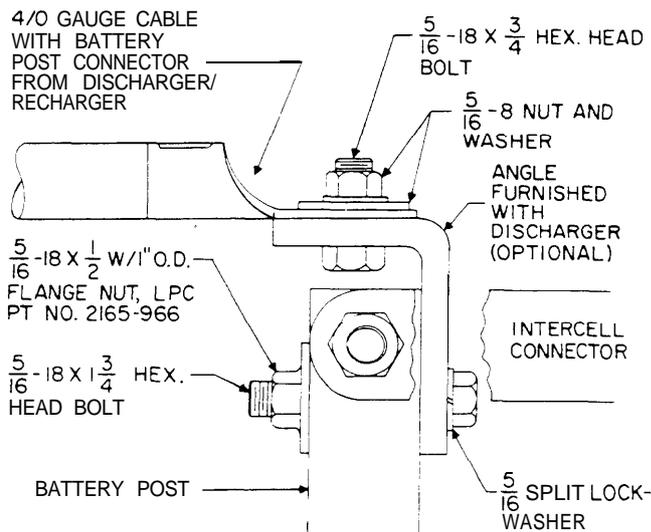

Figure 4. Typical Connection of Power Lead to Battery Post.
- (3) Using bolts, nuts, and washers as shown in Figures 4 and 5, connect the 4/0 gauge cables of the discharger/recharger to the cell terminals as follows: